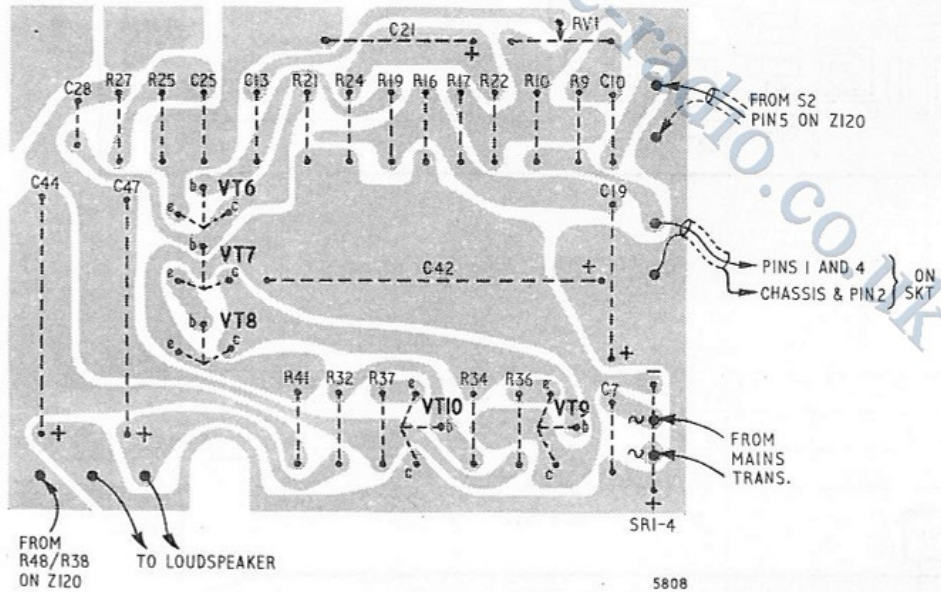

Fig. 6b Audio unit (A784) printed side
- 7 For a complete removal of the chassis, disconnect the tape socket leads from the audio unit A784 (see Fig. 6b). Disengage the ferrite rod aerial from its mounting bracket and disconnect the internal VHF aerial leads.